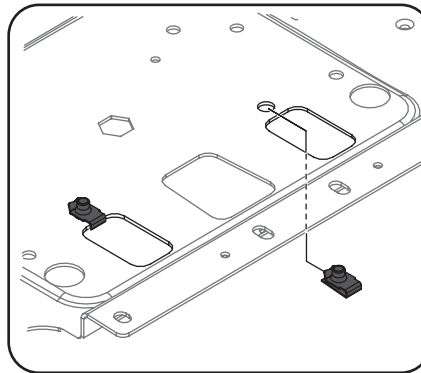

Figure 4-18
2. Slide 2 clip nuts (926-0211) into the mounting holes on the underside of the tractor frame. Top view shown below. See Figure 4-18.